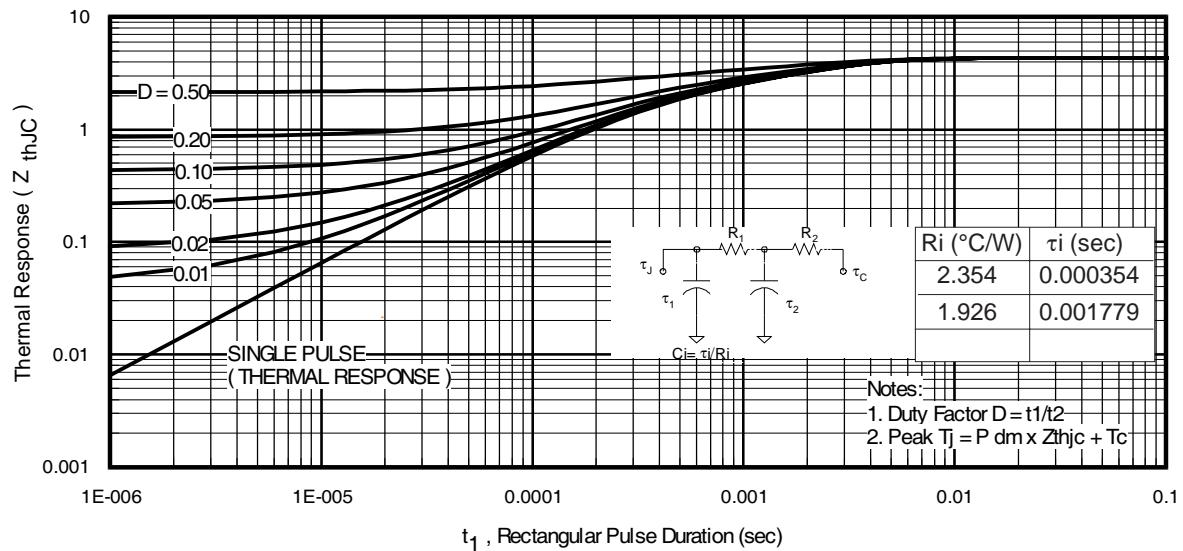
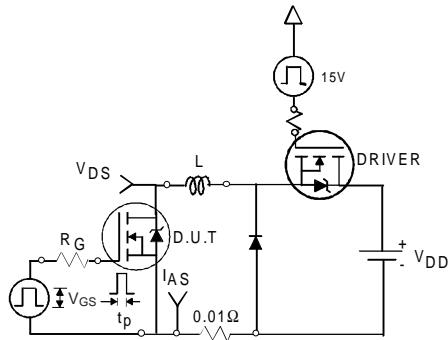

Fig 11. Maximum Effective Transient Thermal Impedance, Junction-to-Case
Fig 12a. Unclamped Inductive Test Circuit
3. Equation below based on circuit and waveforms shown in Figures 12a, 12b.
$Z_{thJC}(D, t_{av})$ = Transient thermal resistance, see figure 11)
- ① Repetitive rating; pulse width limited by max. junction temperature. (See fig. 11).
- ② Limited by T_{Jmax} , starting $T_J = 25^\circ\text{C}$, $L = 0.54\text{mH}$ $R_G = 25\Omega$, $I_{AS} = 9.6\text{A}$, $V_{GS} = 10\text{V}$. Part not recommended for use above this value.
- ③ Pulse width $\leq 1.0\text{ms}$; duty cycle $\leq 2\%$.
- ④ C_{oss} eff. is a fixed capacitance that gives the same charging time as C_{oss} while V_{DS} is rising from 0 to 80% V_{DSS} .
- ⑤ Limited by T_{Jmax} , see Fig.12a, 12b, 15, 16 for typical repetitive avalanche performance.
- ⑥ This value determined from sample failure population. 100% tested to this value in production.
- ⑦ When mounted on 1" square PCB (FR-4 or G-10 Material). For recommended footprint and soldering techniques refer to application note #AN-994.
- ⑧ R_θ is measured at T_J of approximately 90°C .